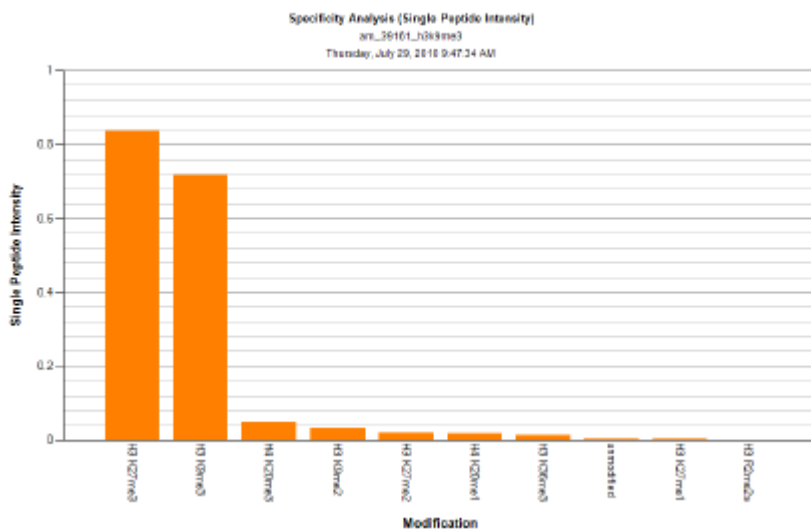

Figure 7. Example of a Single Peptide Intensity Plot for H3K9me3 Antibody
6.13. The **Single Peptide Intensity** option displays only single modified peptides without averaging all spots containing the mark. Whereas the Multiple Peptide Average plot provides a general overview of specificity, the Single Peptide Intensity plot reveals a more precise and exact indication of specificity of the antibody in question. **The Single Peptide Intensity Plot should be sent out to supervisors to determine whether the antibody can be put into production.** See Figure 7 of an example of a Single Peptide Intensity Graph.